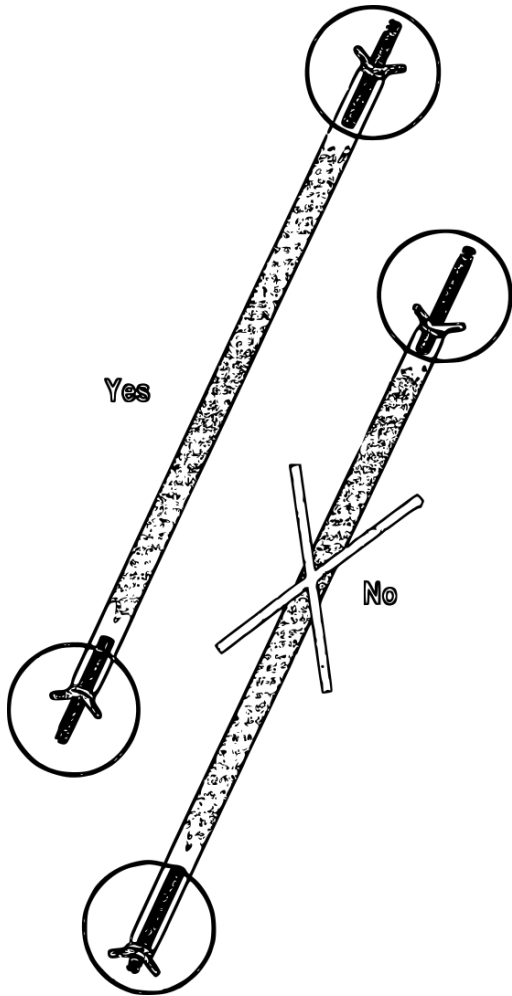

Figure 16
Secure the screw coupling pos.8 to the carriage and the column (see fig. 16), making sure the short side faces upwards. The screw coupling must be fitted to the column by means of the plates pos.12 and to the spider by the pin pos. 13; it should then be tightened by screw sleeve with butterfly lock nuts pos.14.
**WARNING: when tightening the screw coupling, make sure upper and lower sides of the threaded sleeve are tightened in the same way (see fig.16).**